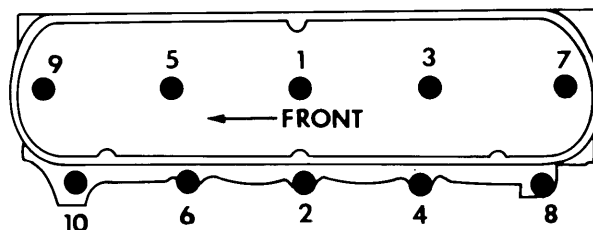

Fig. 2 Tightening Sequence for Cylinder Head
2) Install cylinder heads and bolts. Tighten 302" engine head bolts in two steps and 351" W engine head bolts in three steps. Tighten bolts in sequence shown in *Fig. 2*. Reverse removal procedure for installation of remaining components.